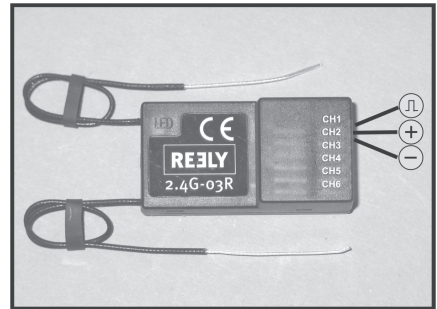

Figure 29
The two aerial lines (see figure 28, item 4) were only coiled for photo-technical reasons. Place the lines as straight in the model as possible. The two aerials (see figure 29, item 5) must neither be cut off nor bent; for best receipt results, they should be aligned at a 90° angle to each other.